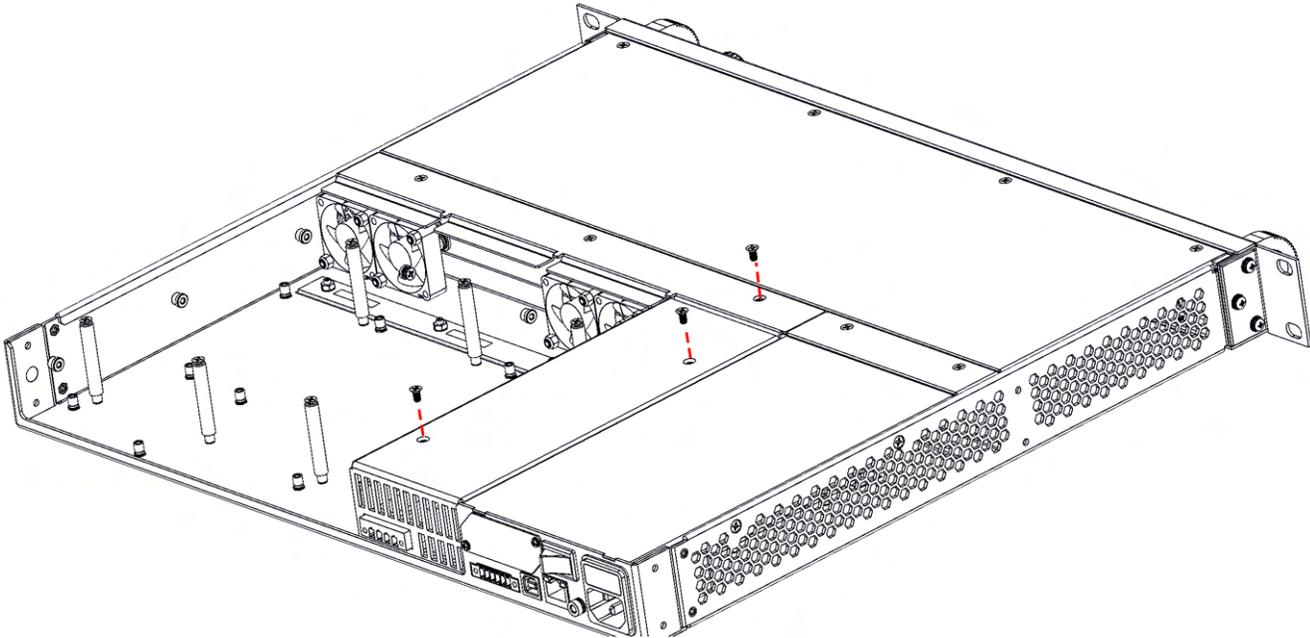

Figure 4.2 Tighten Screws
- Each module is secured by 3 screws. See **figure 4.2**